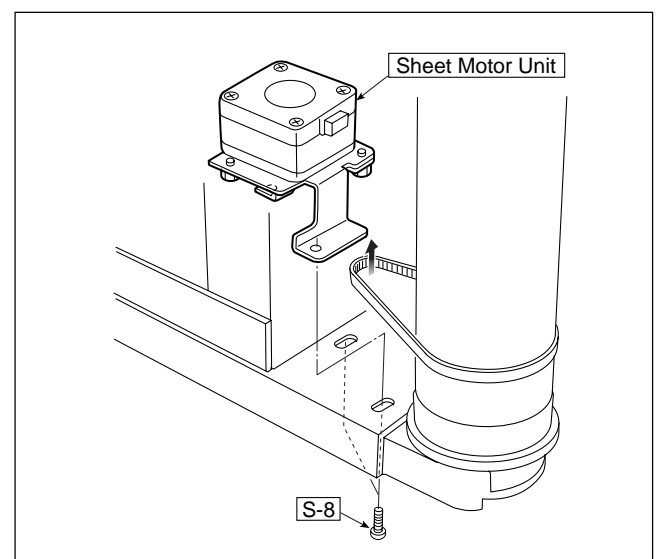

Fig. 6
6) Remove the Sheet Motor Unit. (See Fig. 6.)